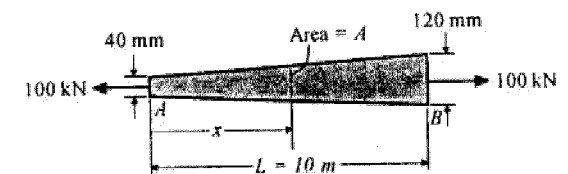

Fig. 1c
- The cross section of the 10-m-long flat steel bar AB has a constant thickness of 20 mm, but its width varies as shown in the fig.1c. Calculate the elongation of the bar due to the 100 -kN axial load. Use $E = 200$ GPa for steel.